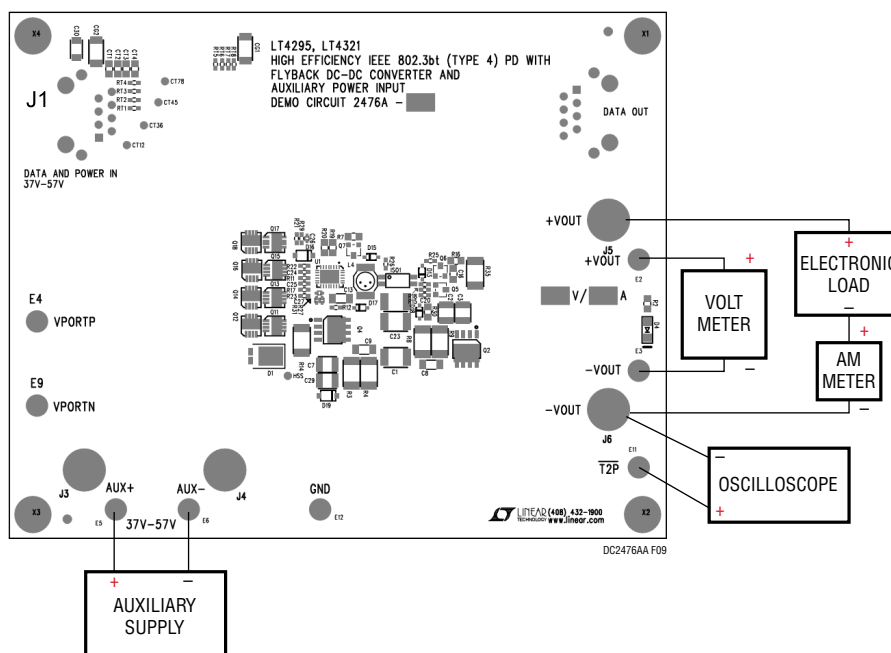

Figure 9. Setup Diagram for Auxiliary Supply Input
1. Place and connect test equipment (voltmeter, ammeter, oscilloscope and electronic load) as shown in Figure 9.
3. Connect the output of the auxiliary supply to the DC2476A as shown in Figure 9. Turn on the auxiliary supply and set its current limit to 2A. Then increase its output voltage to 48V.
6. Verify  $\overline{T2P}$  response with an oscilloscope as shown in Figure 9. The  $\overline{T2P}$  response during auxiliary power operation is: 75% Logic High/25% Logic Low, Toggle at  $976Hz \pm 7\%$ .